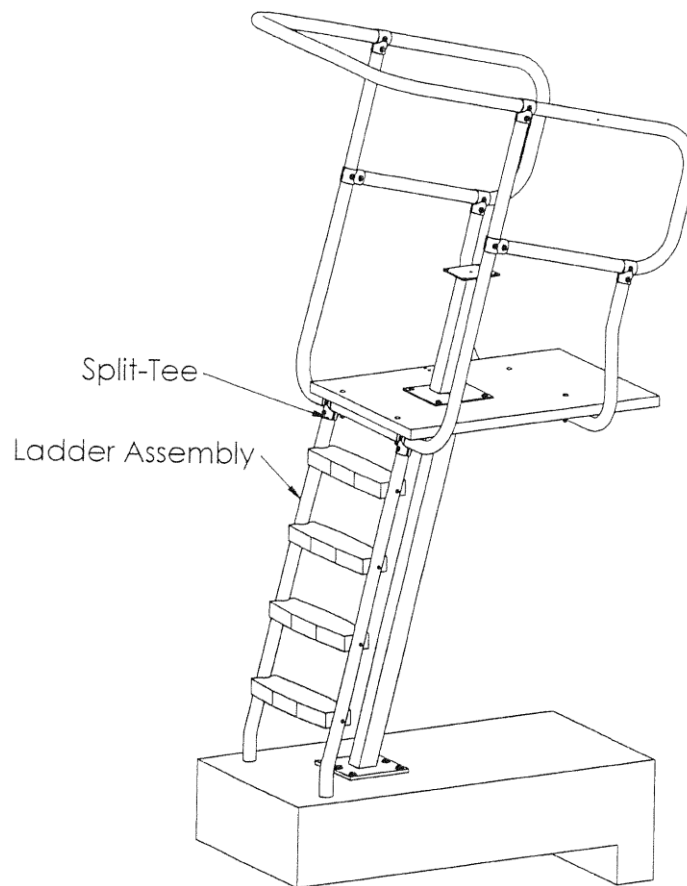

Figure 6
Step 5: Attach the ladder assembly to the upper frame assembly using split-tees, 3/8"x2 3/4" carriage bolts, 3/8" lock washer, and 3/8" acorn nuts as shown in figure 6.